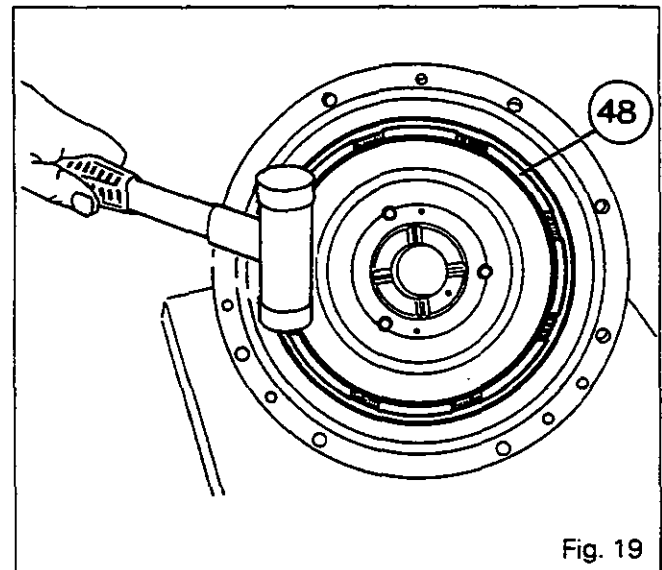

Fig. 19
60. Fit seals (22) and (23) to piston (48).
63. Tap piston (48) gradually home into the cover by working progressively round its face with a plastic-faced mallet (Fig.19).